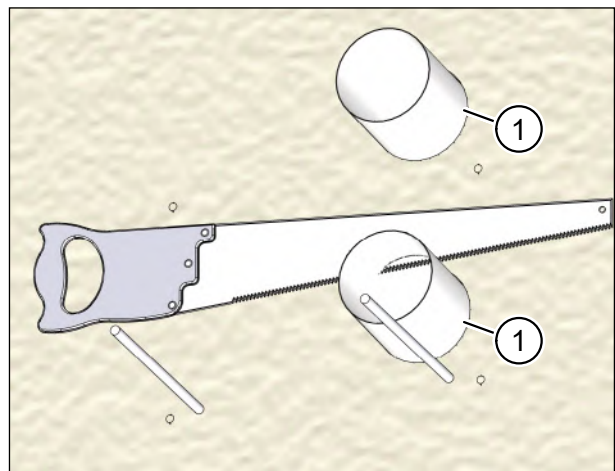

Fig. 28: Cutting ventilation pipes on internal wall to length
- ▶ Cut the ventilation pipes (item 1 in Fig. 28) to length on the internal wall so that they end flush with the internal plaster.